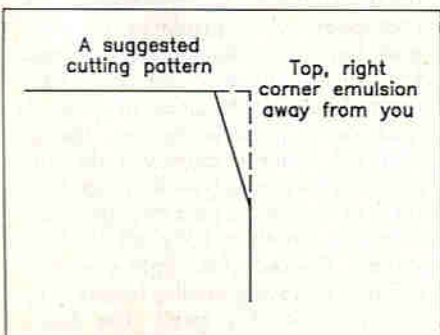

Figure 10. Marking film for orientation.
8. Return to the set up and cut the film. Cut a 1in square of film for the first attempt, unless you are feeling rich or confident. Find the emulsion side of the film using the 'wet lip test'. Lick your lips, leaving them slightly wet, then close them over one corner of the film. The emulsion side of the film will feel more sticky, and may even stick to the lip. To remember which is the emulsion side it is recommended that you mark the film – cutting one of the corners off is a good way, see Figure 10. (It will save a lot of time later if you can identify which way round the film was when it was exposed.)